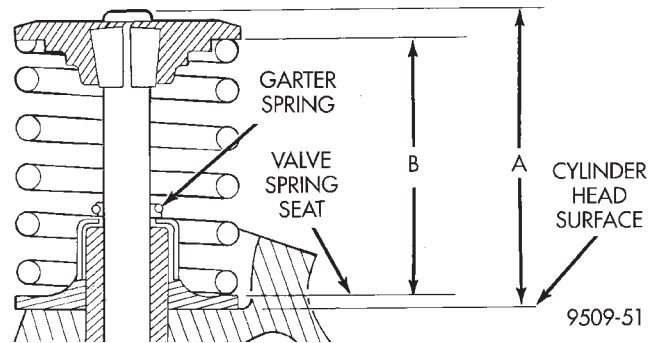

Fig. 108 Spring Installed Height and Valve Tip to Spring Seat Dimensions
head (Fig. 108). The valve tip chamfer may need to be reground to prevent seal damage when the valve is installed.
(4) Check the valve spring installed height B after refacing the valve and seat (Fig. 108). Make sure measurements are taken from top of spring seat to the bottom surface of spring retainer. If height is greater than 40.18 mm (1.58 in.), install a 0.762 mm (0.030 in.) spacer under the valve spring seat to bring spring height back within specification.
(5) Install rocker arm shafts as previously described in this section.
(6) Checking dry lash. Dry lash is the amount of clearance that exists between the base circle of an installed cam and the rocker arm roller when the adjuster is drained of oil and completely collapsed. Specified dry lash is 1.17 mm (0.046 in.) for intake and 1.28 mm (0.050 in.) for exhaust. After performing dry lash check, refill adjuster with oil and allow 10 minutes for adjuster/s to bleed down before rotating cam.